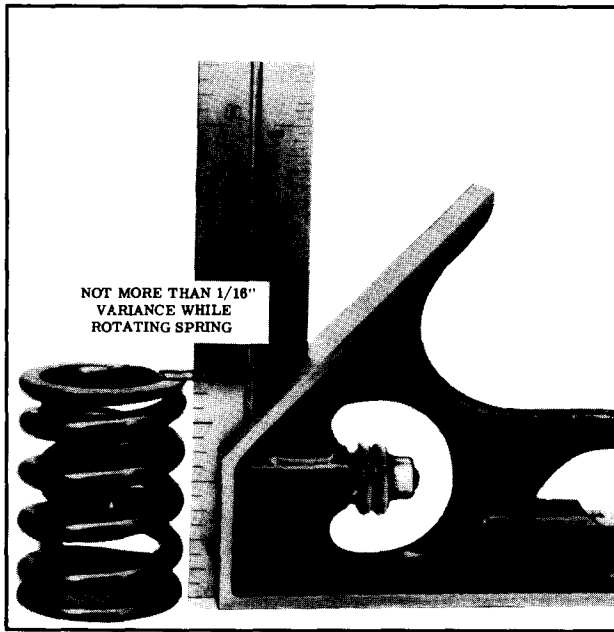

Figure 24—Checking Valve Spring
a. Occasionally this noise can be eliminated by rotating the valve spring and valve. Crank engine until noisy valve is off its seat. Rotate spring. This will also rotate valve. Repeat until valve becomes quiet. If correction is obtained, check for an off square valve spring. If spring is off square more than 1/16" in free position, replace spring. See Figure 24.